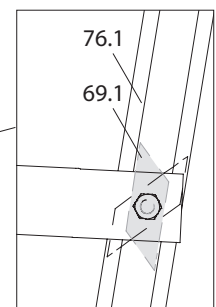

Fig. A9.12c
3. Fit ladder 180/6 to ladder connector. To do this, slightly loosen screw M12 x 25 of the clamping plate (69.1), insert the clamping plate into the ladder stile (76.1), turn and tighten the screw. (Fig. A9.12c + A9.12d)